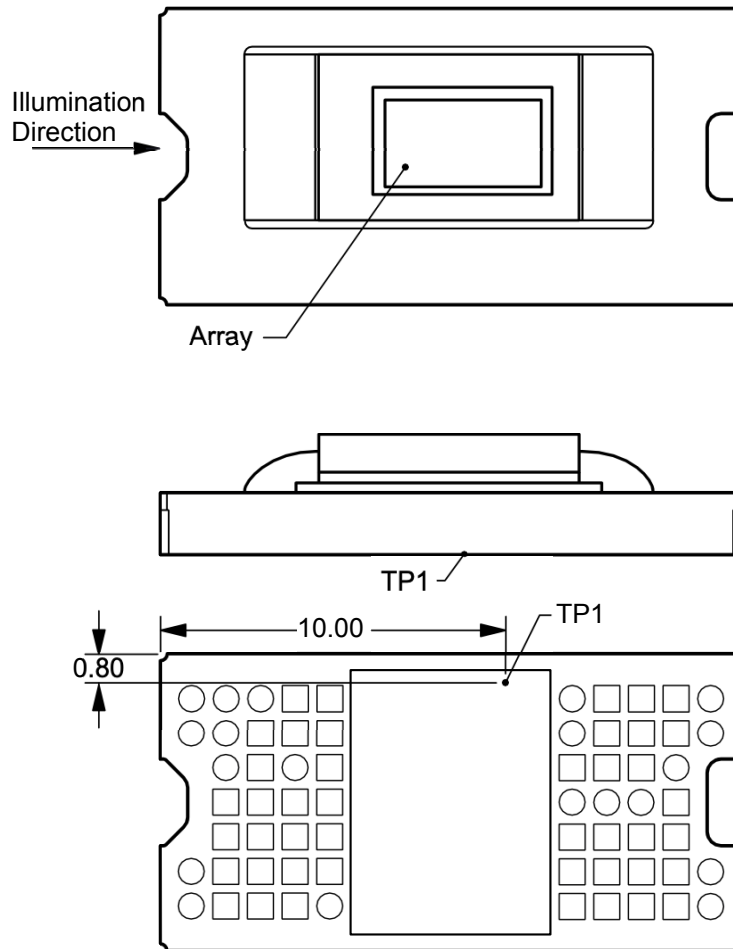

图 7-4. Thermocouple Location
Relationship between array temperature and the reference ceramic temperature (thermocouple location TP1 in 图 7-4) is provided by the following equations.
- $T_{\text{CERAMIC}}$  = measured ceramic temperature (TP1 location in 图 7-4) (°C)